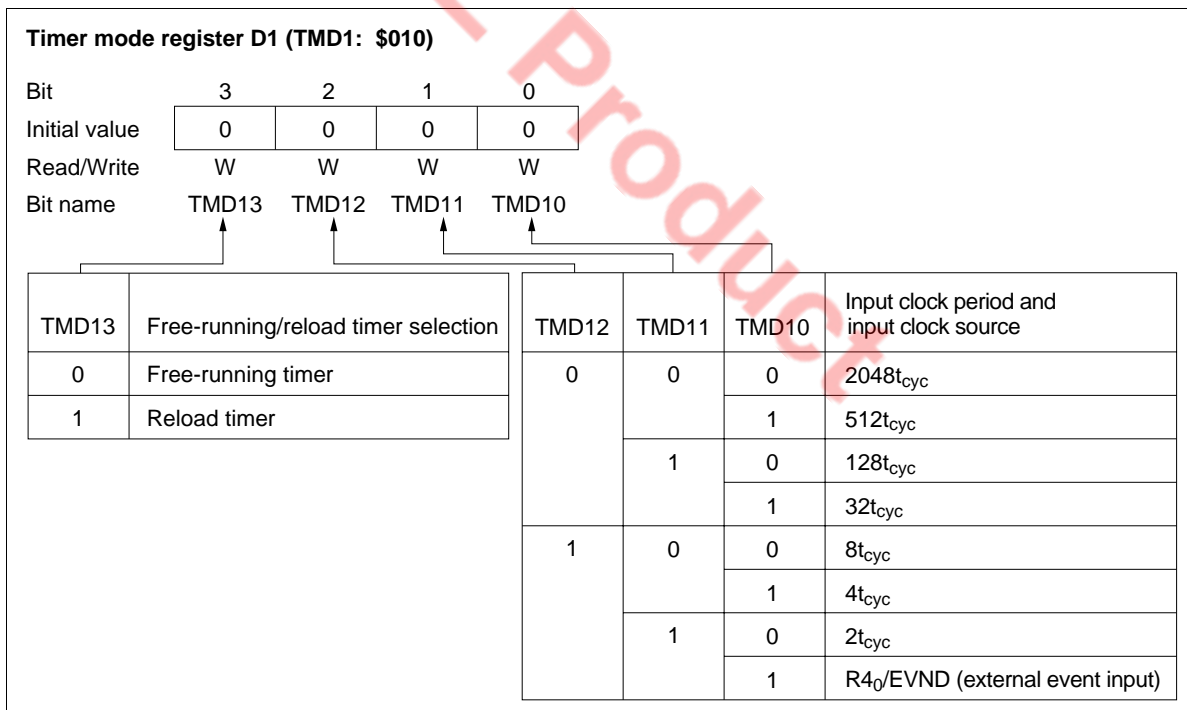

Figure 44 Timer Mode Register D1 (TMD1)
- Timer mode register D1 (TMD1: \$010): Four-bit write-only register that selects the free-running/reload timer function, input clock source, and the prescaler division ratio as shown in figure 44. It is reset to \$0 by MCU reset.